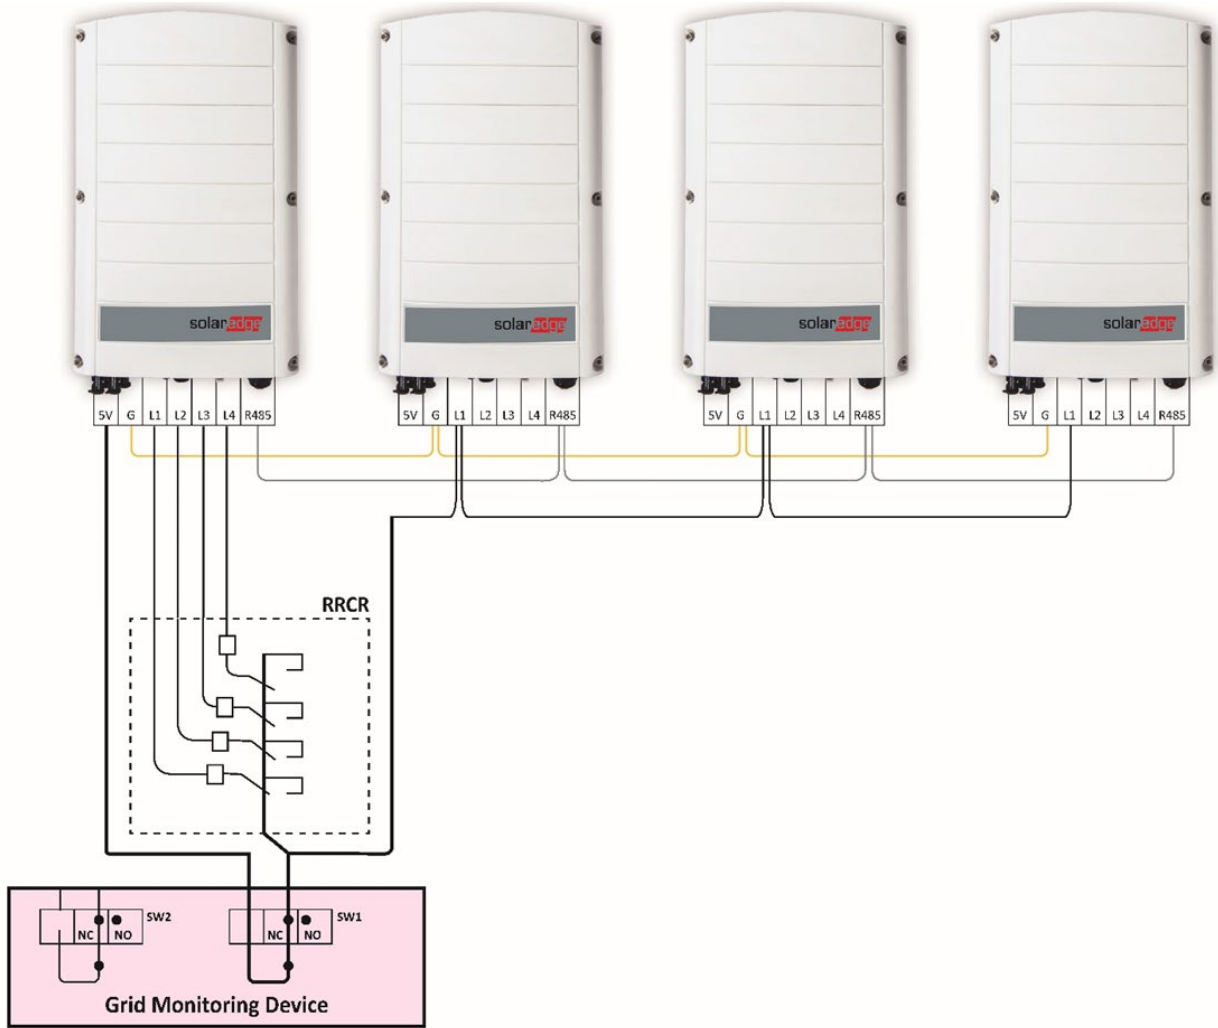

Figure 4: Multiple Inverter System, with RCCR
- **Version 1.4, March 2019** - modified figures 4 and 6 (replaced Secondary Protection Device to Grid Monitoring Device and deleted K1, K2 and K3)